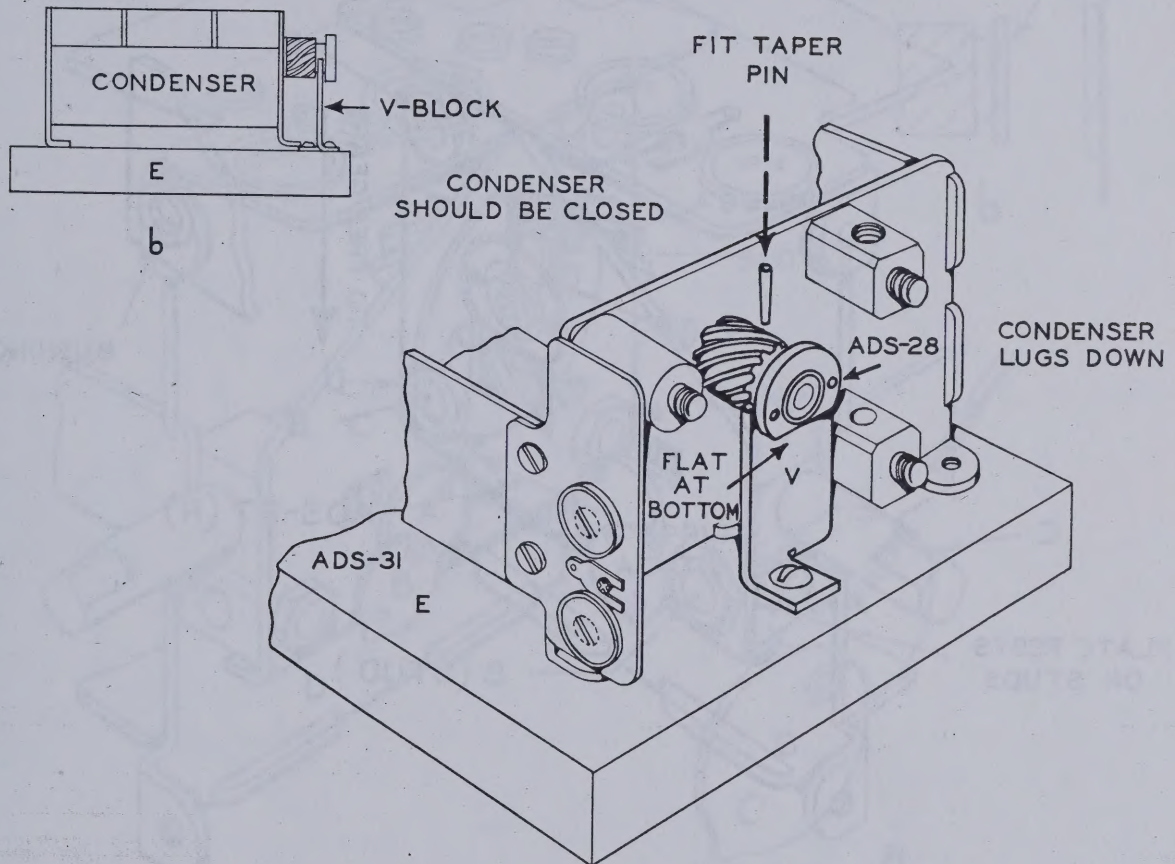

Figure 14 — Condenser — Mounting of Spiral Gear
10. (FIG. 14) To install spiral gear use block (E) and Vee-block (V) and place the condenser on its mounting lugs as shown at (b). Mount the spiral gear and fit taper pin.
11. (FIG. 14) Drive new taper pin using the block supplied for this purpose as shown at (b). Both ends of the taper pin are to be flush with the root of the gear teeth.